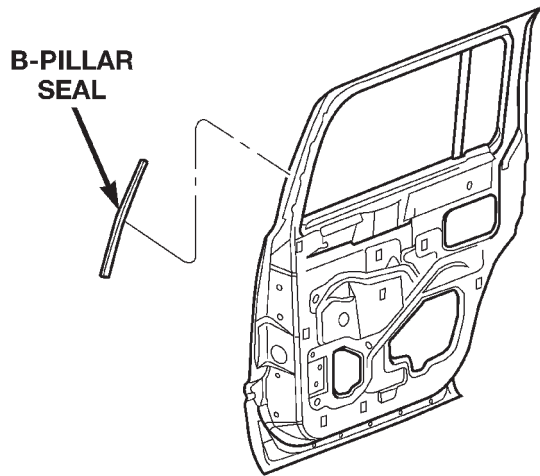

Fig. 41 B-Pillar Seal
- (1) Peel the seal from the door (Fig. 41).